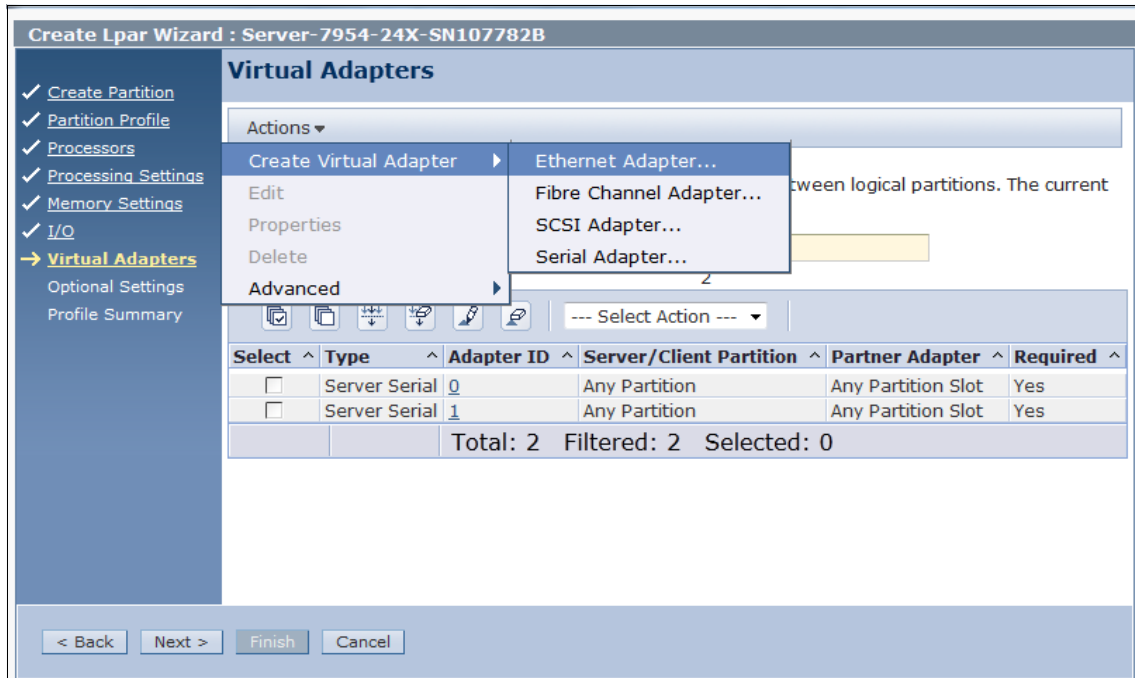

Figure 8-35 Adding virtual Ethernet adapters for a VIOS
1. From the Virtual Adapter window, select **Actions** → **Create** → **Ethernet Adapter** to create the first virtual Ethernet, as shown in Figure 8-35 on page 385.